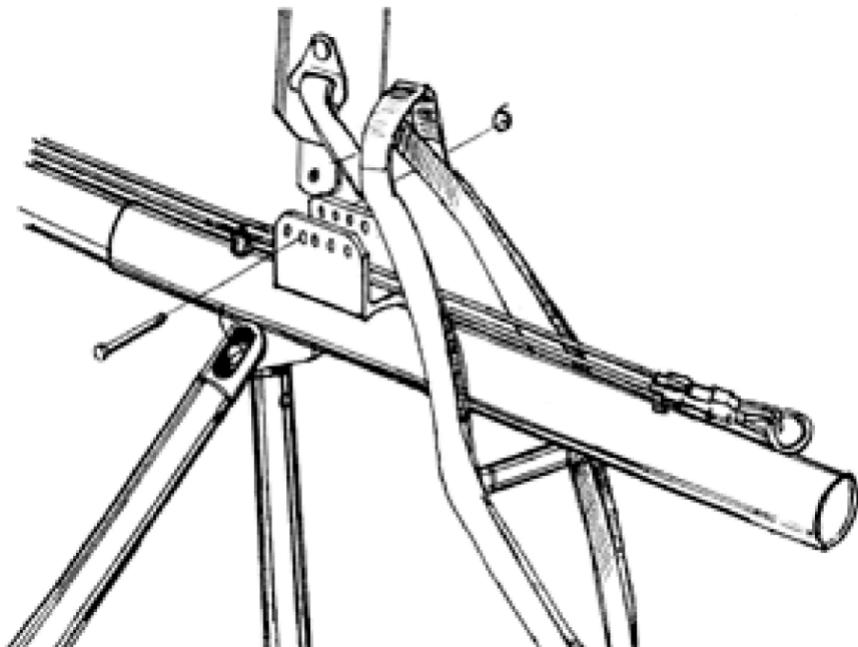

Fig. 11
2.1.11. Put the hang strap that is on the kingpost through the kingpost hole in the sail and fit it over the end of N1 keel tube so that the spreader bar of the hang strap is under the keel tube. Install the kingpost into the kingpost channel. **Make sure that crossbar tensioning wire pass through the kingpost channel.** Secure the kingpost with the clevis pin and the safety ring (Fig. 11).